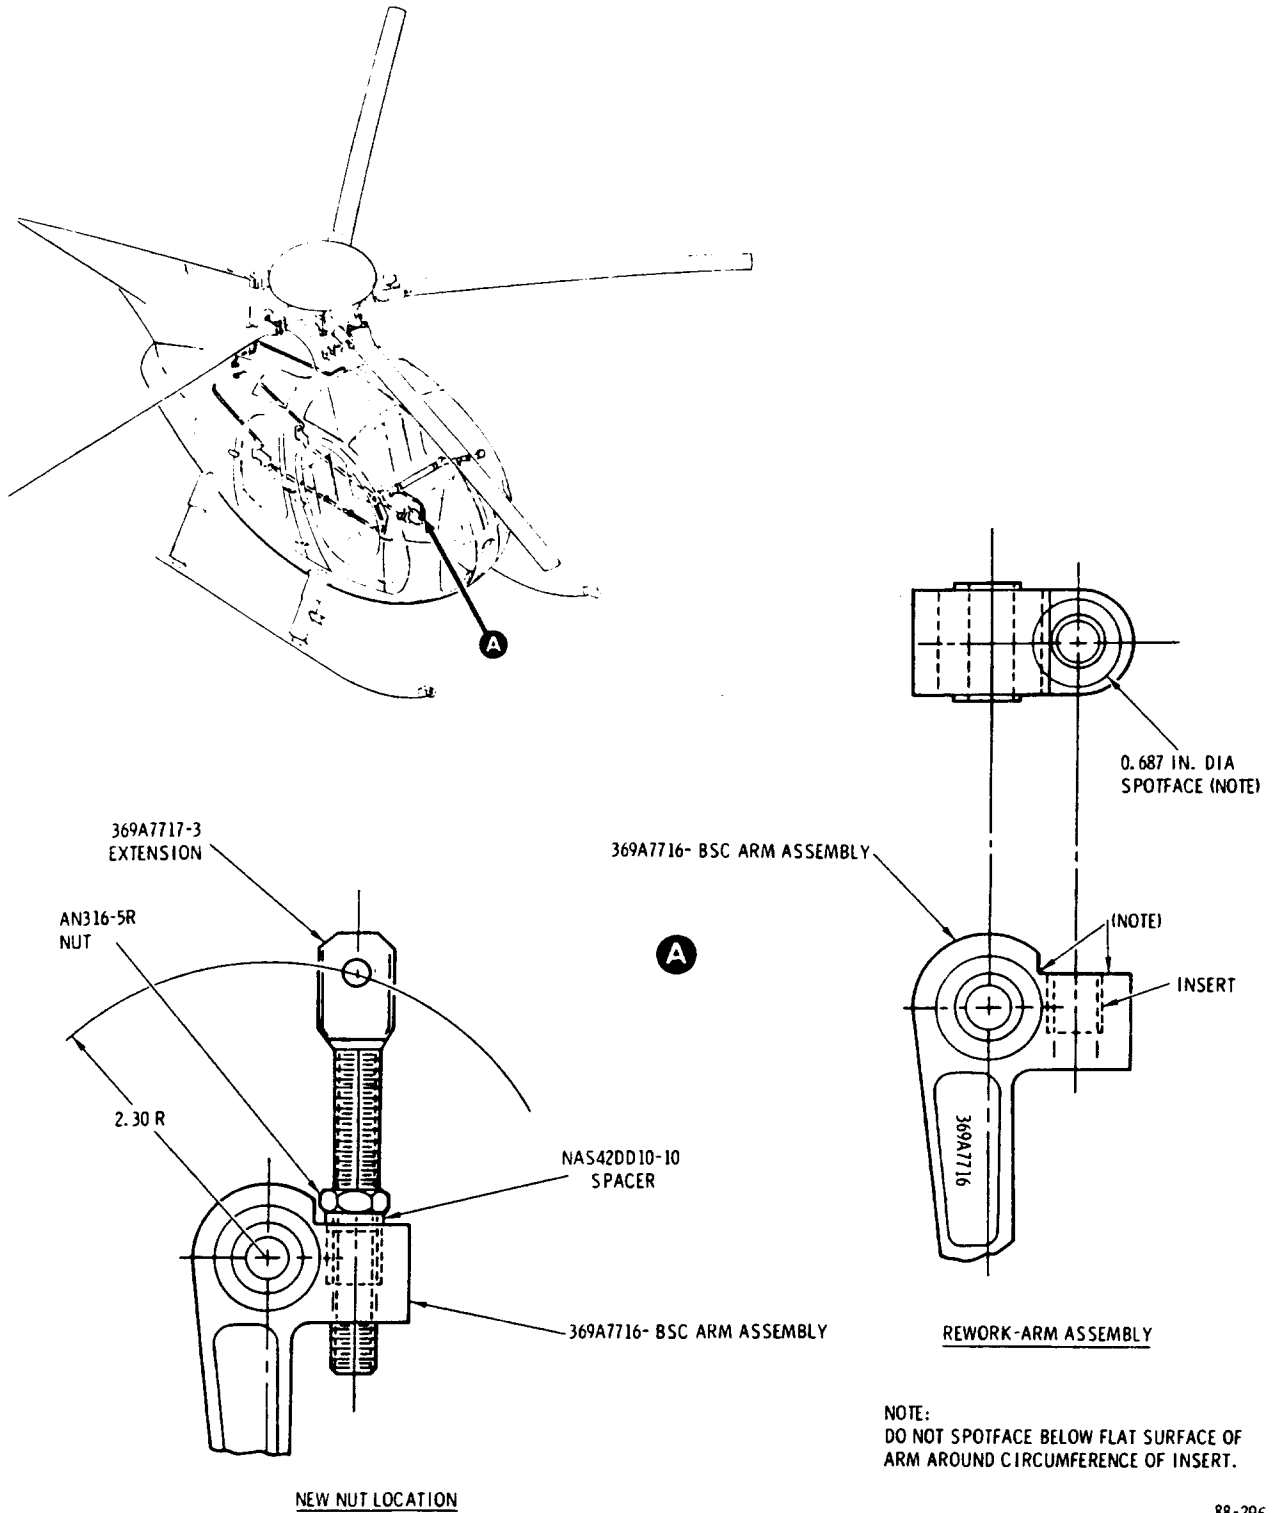

Figure 1. Relocation of Locknut - Station 68.0 Bellcrank Assembly
- Spotface PN 369A7716 or 369N2606 arm assembly, as shown in figure 1.
- e. Install existing locknut and new NAS42DD10-10 spacer on -3 extension; reinstall extension. (See Figure 1.)